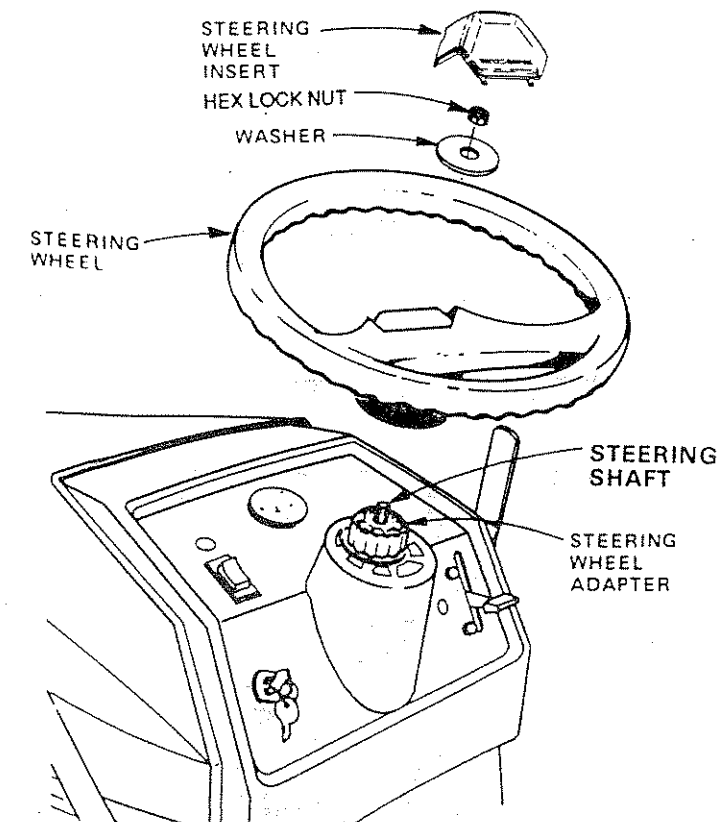

FIGURE 5
- Use 3/4" wrench to remove Hex Nut and 2-1/4" Dia. Washer from Steering Shaft (Fig. 5).
- Secure Steering Wheel to Steering Shaft using 2-1/4" Dia. Washer and Hex Nut (Fig. 5). Torque to 50 ft. lbs.